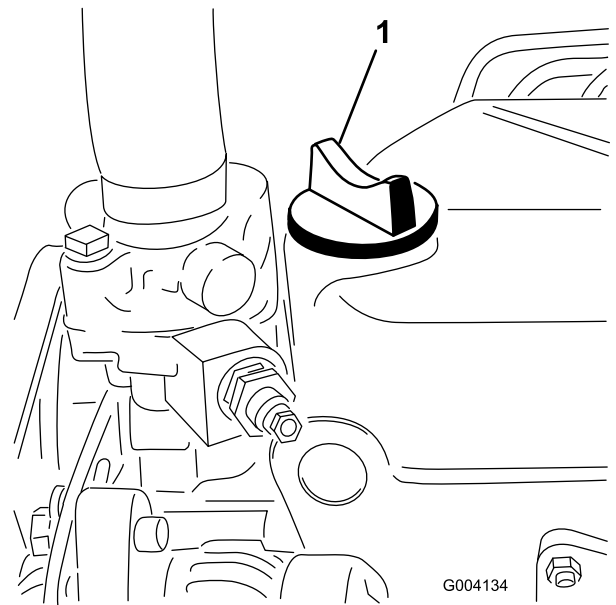

Figure 24
5. If the oil level is below the Full mark, remove the fill cap (Figure 24) and add oil until the level reaches the Full mark on the dipstick. **Do not overfill.**